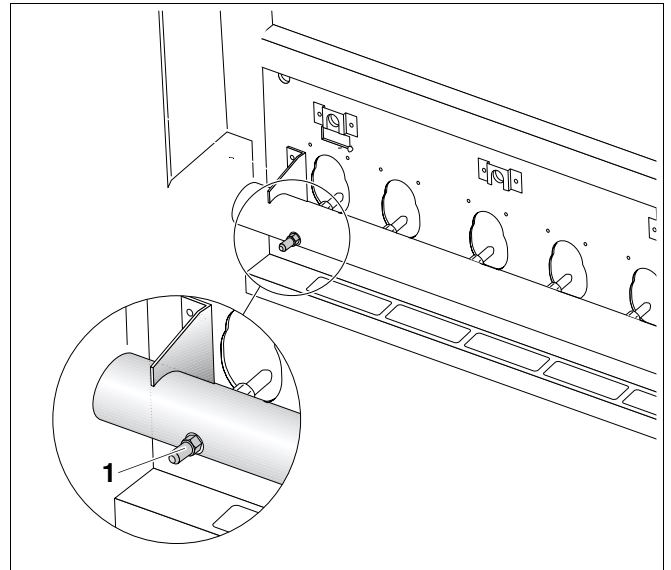

Fig. 24 Checking the nozzle pressure
- Release the plug of the test port on the burner manifold (Fig. 24, **Item 1**) by two full turns.
- Push the test hose of the U-tube pressure gauge onto the test port (Fig. 24, **Item 1**).